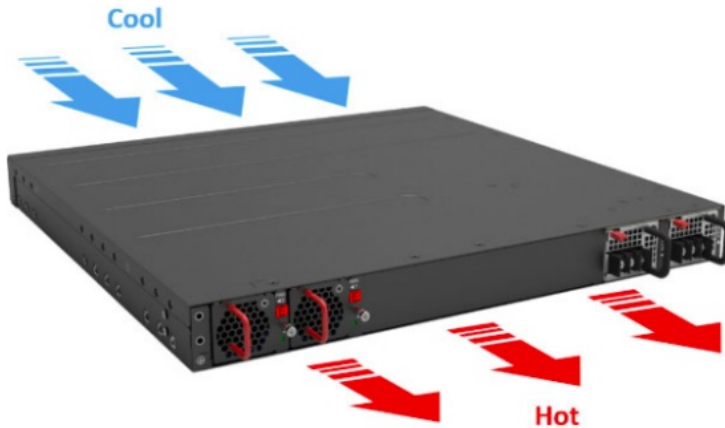

Figure 3.
- **Cooling:** The S6301-56ST has two options for airflow direction. There is a back-to-front option (Figure 3. Left) and a front-to-back option (Figure 3. Right). Make sure the equipment on the same rack have the same airflow direction.